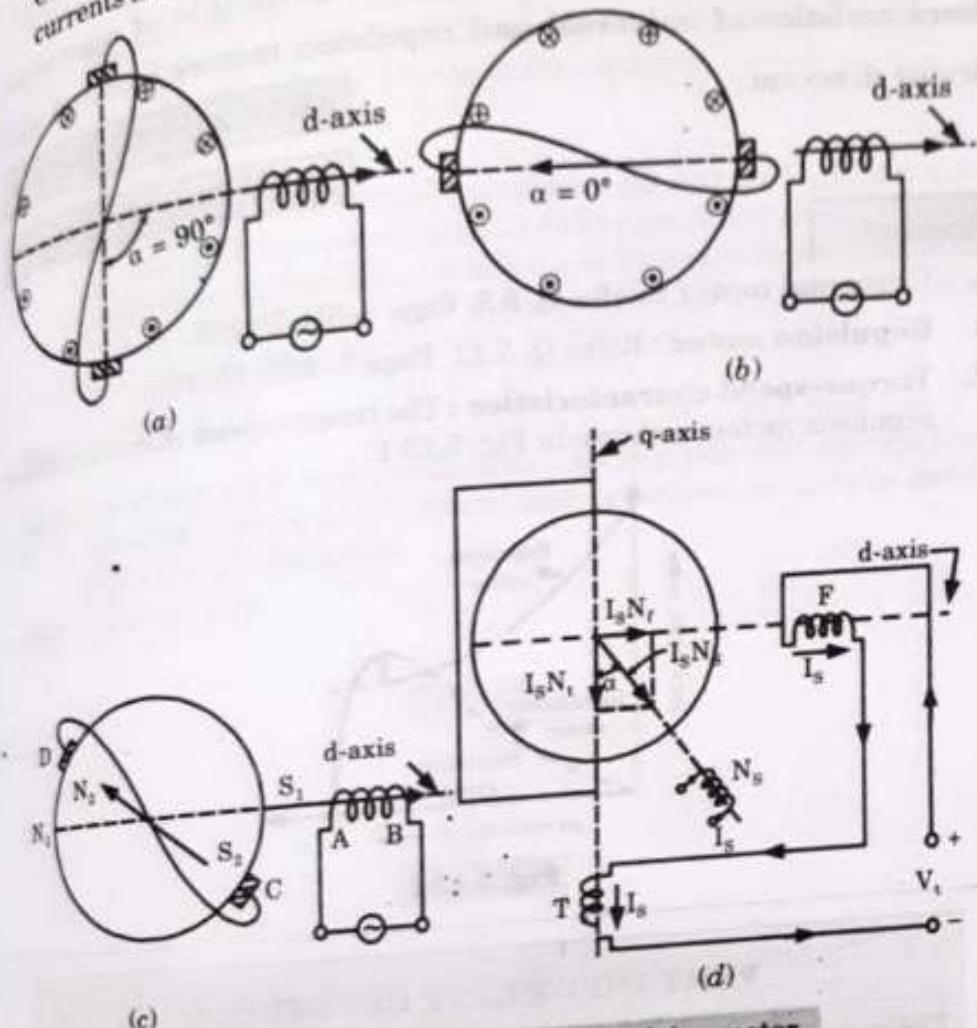

Fig. 5.12.2. Production of torque in repulsion motor.
- If the stator mmf at any instant is directed from A to B, then the rotor-induced mmf must have a component opposite to the stator mmf at the same instant, i.e., the rotor induced mmf must be directed from C to D in Fig. 5.12.2(c).